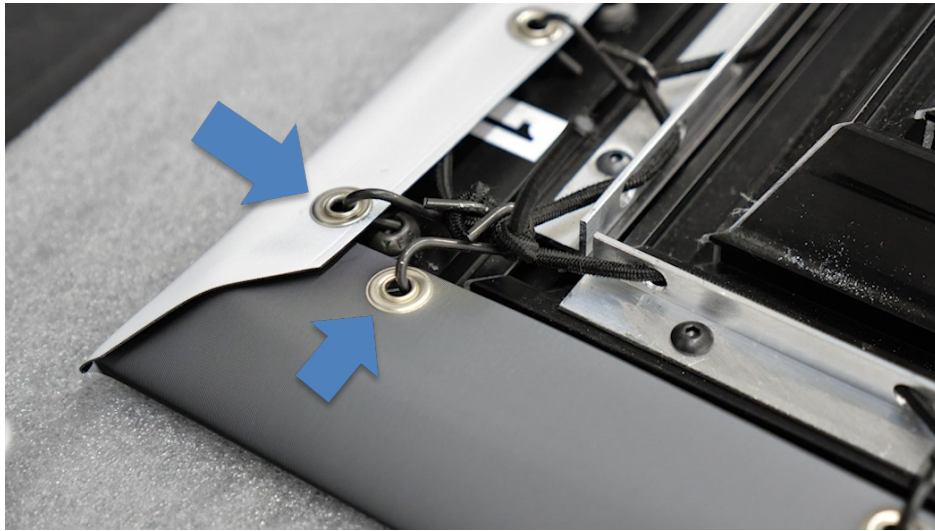

Figure 9: Cross lace corner hooks
F. The final hooks at each corner should be connected to the screen by crossing the lacings. The final S-hook on the vertical frame connects to the final grommet on the horizontal screen edge and vice versa (see Figure 9).